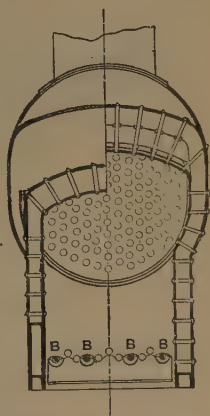

Fig. 29. Milholland Fire-box.
A. It is shown in Figs. 29 and 31. The furnace top slopes downward from the boiler barrel, and the crown-sheet is